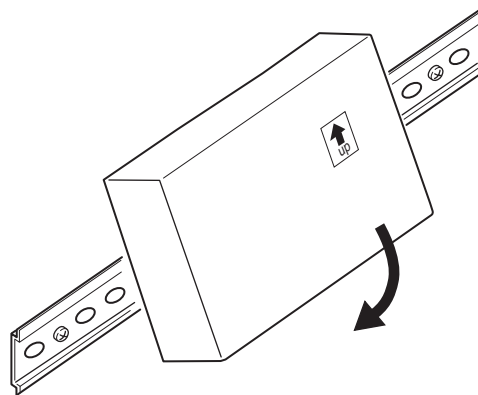
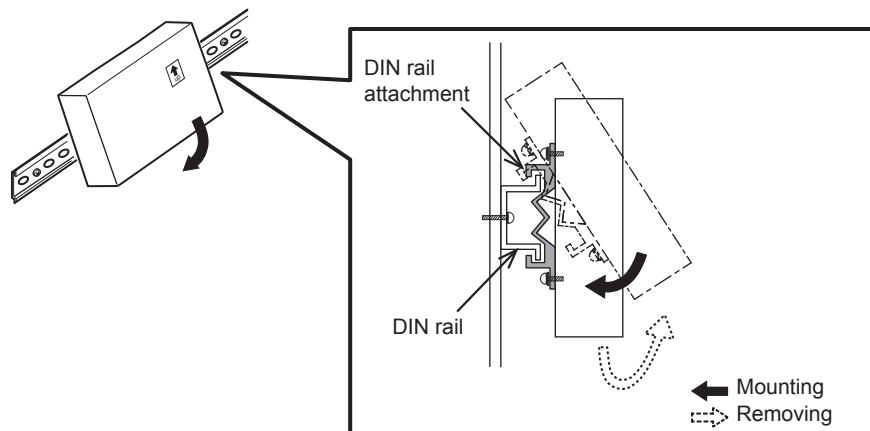

Fig. 7-5
Fig. 7-6
3. Properly mount the AHC ADAPTER on the DIN rail vertically. (Fig. 7-5 and Fig. 7-6)